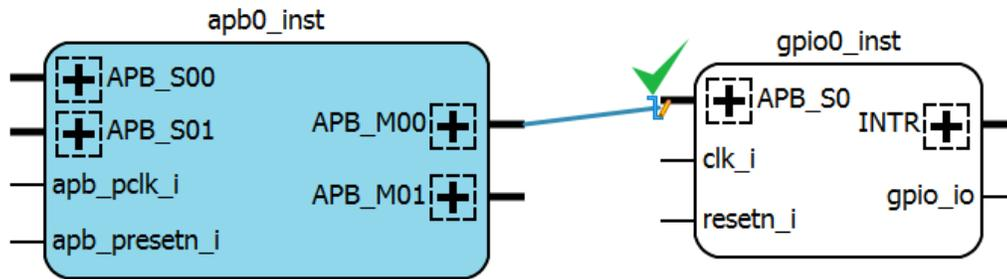
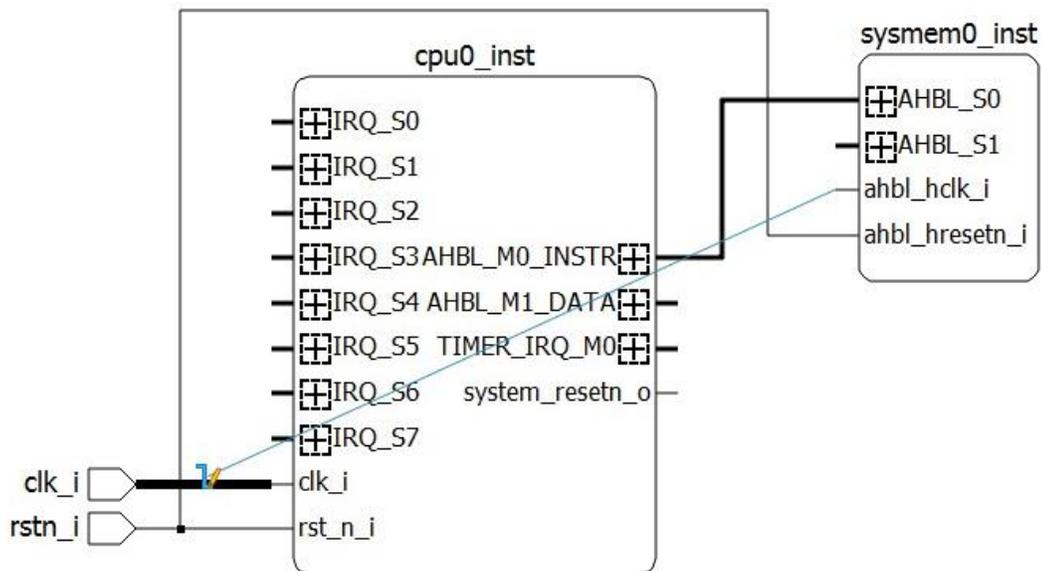

Figure 2.44. Draw a Pin or a Port
Figure 2.45. Draw Nets
- Move the cursor to a pin or port. The cursor changes to a pencil icon . Click and hold while dragging to another pin, port, or net. An allowed pin or port shows a green check-mark when you hover over it (Figure 2.44). An allowed net becomes bold when you hover over it (Figure 2.45).